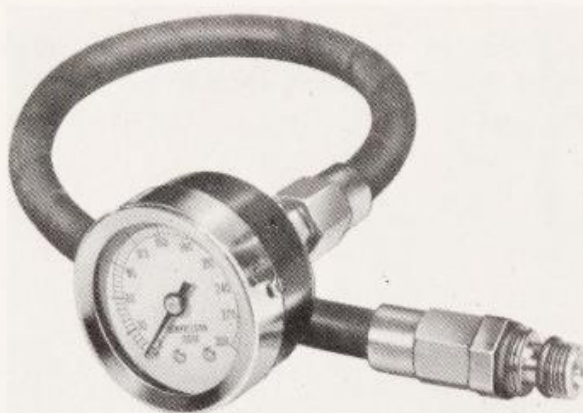

Fig. A-1A. Compression tester is a valuable diagnostic tool. Compression pressure readings help to establish whether or not the engine is tuneable.
- 5 - With the throttle wide open, place a compression gauge (see Fig. A-1A) in each spark plug hole in turn and crank the engine by means of the starter.